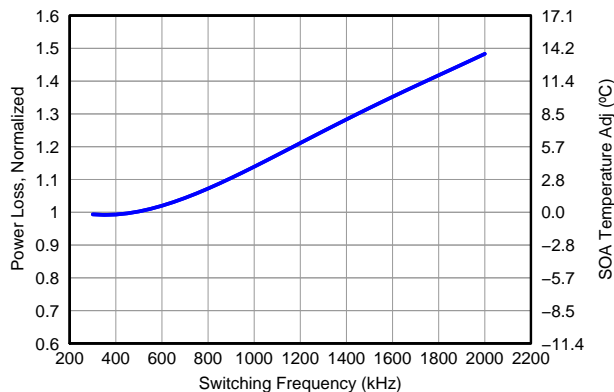

Figure 12. Normalized Power Loss vs Frequency
- Normalized Power Loss for switching frequency  $\approx 1.08$  (Figure 12)
- SOA adjustment for switching frequency  $\approx 2.6^\circ C$  (Figure 12)